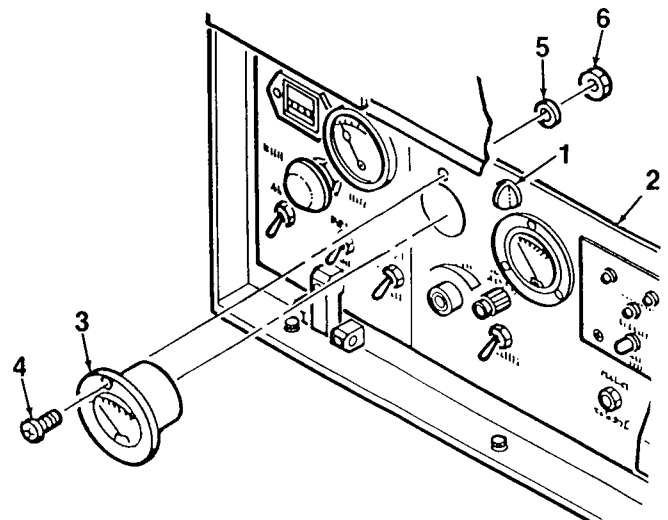

Figure 4-7. VOLTAGE Meter
1. Turn quarter-turn fasteners (1, Figure 4-7) to unlock and open control panel (2).
2. Tag and disconnect electrical wiring from the rear of VOLTAGE meter (3).
3. Remove VOLTAGE meter (3) from control panel (2) by removing three screws (4), lockwashers (5), and nuts (6).
1. Mate VOLTAGE meter (3, Figure 4-7) to control panel (2). Secure using three screws (4), lockwashers (5), and nuts (6).
2. Connect electrical wiring to the rear of VOLTAGE meter (3).
3. Close control panel (2) and lock in place using quarter-turn fasteners (1).